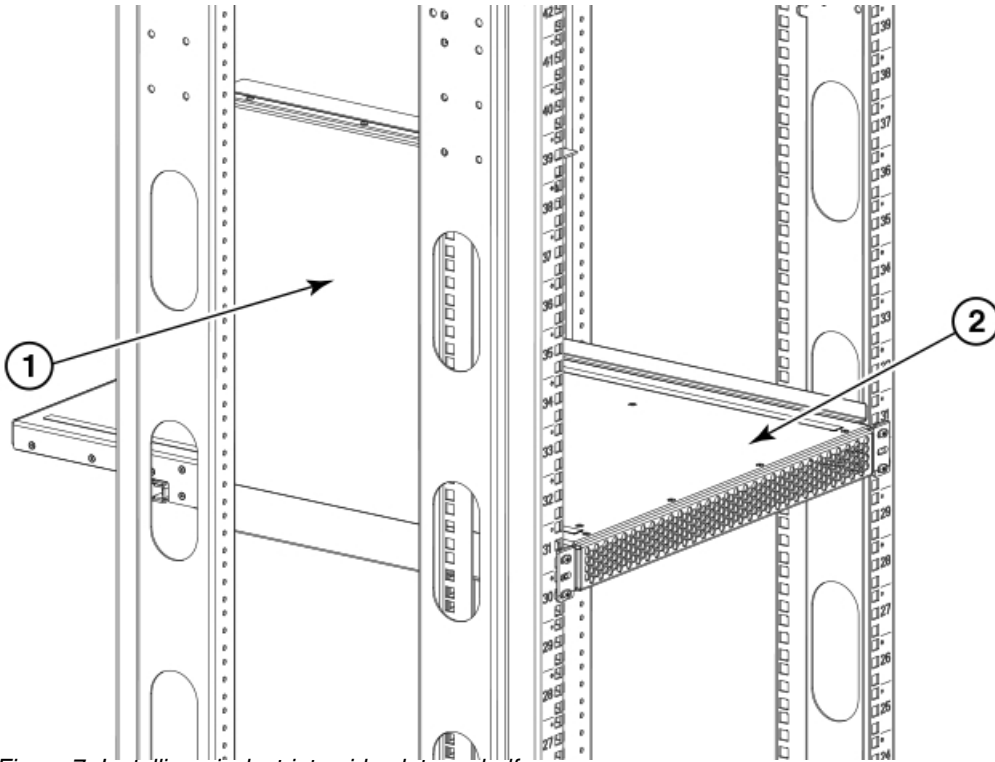

Figure 7. Installing air duct into side slot on shelf
2. Install clip nuts (8 in Figure 7) or retainer nuts (9 in Figure 7) in rack rail locations shown in the following figure. These nuts will secure the 10-32 screws that mount the rack kit's shelf and the device to the rack. For rails with round holes, use clip nuts. For rails with square holes, use retainer nuts. Note that the following figure shows relative positions for these nuts in the rack rails to mount the shelf and device in 9U of rack space higher or lower in the rack than shown.
3. Install the shelf saddle (refer to Figure 7) to the nonport side of the rack. Install the saddle in the same vertical location as where the shelf installs on the port side of the rack. In using the previous figure as example, if the shelf is installed in location 23 on the port side, install the saddle in location 23 on the nonport side. Ensure that the words "THIS SIDE UP" on the saddle face towards the port side of the rack (see the following figure).
Secure the saddle to the rack using four 10-32 screws with washers (refer to Figure 7), two screws on each side of the saddle. Tighten the screws according to specifications under "Torque requirements" on page 21.
Note: For rails with round holes, use the clip nuts (refer to Figure 7) on the rails for securing 10-32 screws. For rails with square holes, use the retainer nuts (see Figure 7). Also refer to Figure 8.
4. Place the shelf (refer to the following figure) on the saddle then secure it to the rack rails using four 10-32 screws with washers (refer to Figure 7). Tighten the screws according to specifications under "Torque requirements" on page 21.
- a. Determine the size of the top rail inner bracket that you will need to install on the top rail so that the top rail will fit on the inside of the rack rails. Remove the appropriate bracket from the accessory kit. Note that the accessory kit contains three sizes, depending the depth of your equipment rack (refer to Figure 7).
- b. Secure the top rail inner bracket to the top rail assembly with two 6-32 screws (see Figure 7). Tighten the screws according to specifications under “Torque requirements” on page 21.
For rails with round holes, use two 10-32 screws with washers (refer to Figure 7) on each end of the top rail assembly. Tighten the screws according to specifications under “Torque requirements” on page 21.
For rails with square holes, use the two standard 10-32 screws with blue Loctite on the threads and alignment washers (refer to Figure 7) on each end of the top rail assembly. Tighten the screws according to specifications under “Torque requirements” on page 21.
Note: For rails with round holes, use the clip nuts on the front rails for securing 10-32 screws. For rails with square holes, use the retainer nuts (refer to Figure 7). Also refer to Figure 8.